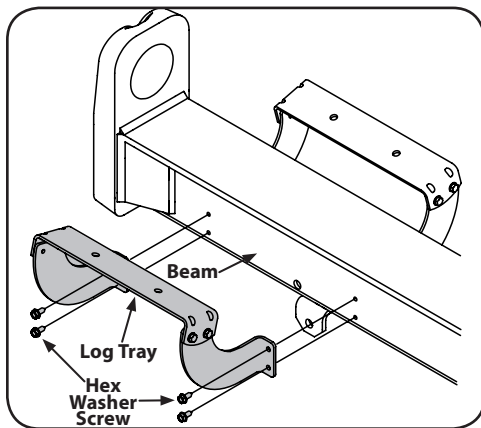

Figure 3-7
- Insert all four hex washer screws removed in Step 15 loosely into threaded holes of the log tray and the beam for alignment and assembly purposes. See Figure 3-7.